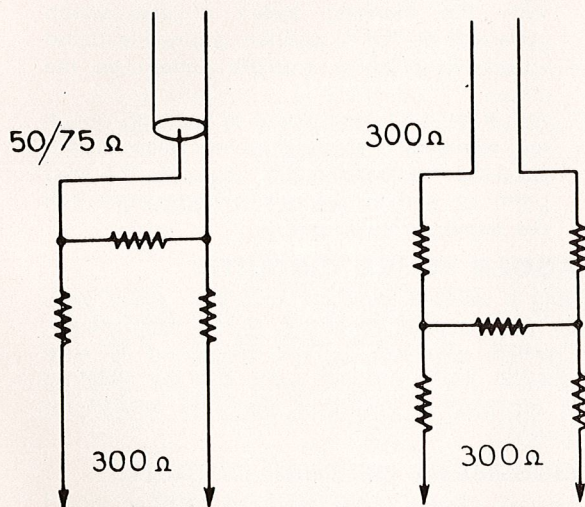

Fig. 3. Sweep attenuator pads.
1. Connect the r-f output cable of the sweep generator to the antenna terminals of the receiver via a suitable matching pad where necessary. See Fig. 3.